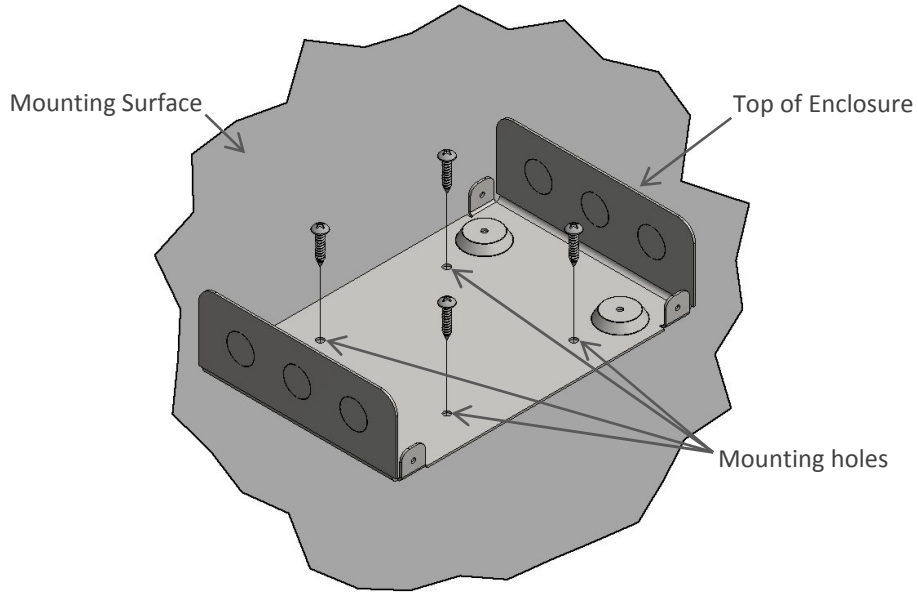

Figure 2: Mounting Base Installation
1. Using the base as a template, mark the locations of the four holes on the surface it will be installed on. Mount the base using (4) #10 or #12 screws (not included). For orientation purposes, the top of the enclosure is shown in Figure 2. Leave appropriate space above and/or below for the conduit connections.